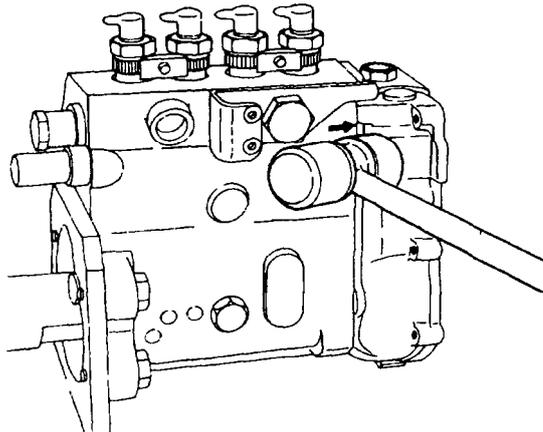

Figure 93 Removing the Governor Housing
- p. Using a Phillips screwdriver and the socket (Table 3, serial 25) remove the seven bolts and spring eye from the governor housing and lightly tap the housing with a soft-faced hammer to separate it from the injection pump (Figure 93).